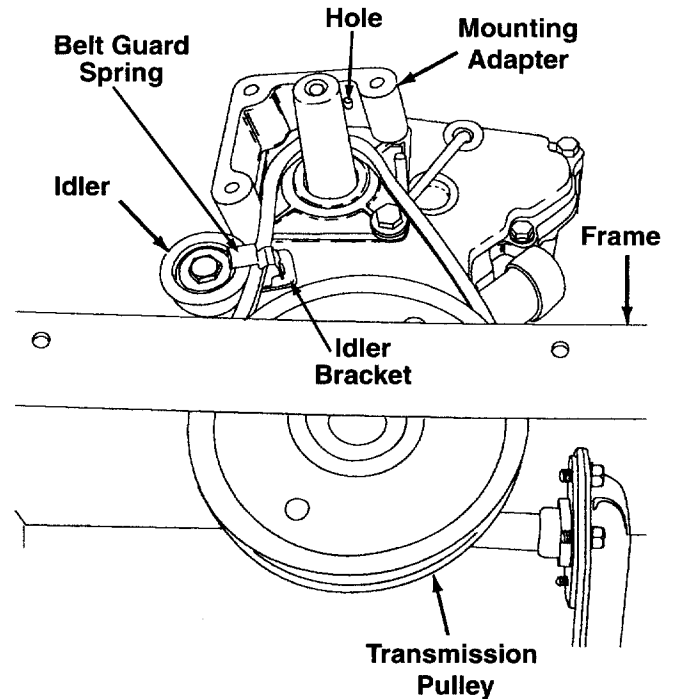

Figure 20
18. Insert the new belt between the frame and transmission pulley. It may be necessary to use a screwdriver to pry the frame away from the pulley in order to insert the belt. Apply a slight upward pressure, being careful not to damage the pulley. Place belt around transmission pulley. See Figure 20.
19. Press down on the belt guard spring by the idler pulley and release spring from the slot on the idler bracket. Place the belt on the idler pulley and place belt guard spring back into the slot on the idler bracket. See Figure 20.
20. Place the mounting adapter against the engine. Make sure the hole in the mounting adapter is facing up. See Figure 20.